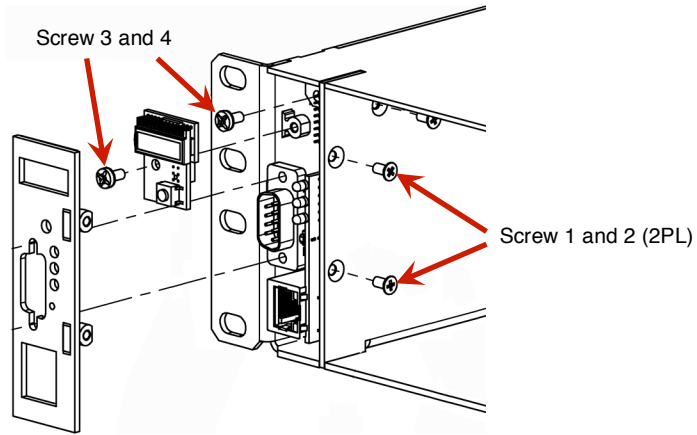

Figure 12—Showing CXCI (original design) replacement detail
8. Remove four (4) mounting screws from the CXCI (Figure 12). The first two screws will release the front panel from the controller circuit board to expose the third screw that releases the LCD circuit board. Carefully remove the LCD board to expose the fourth and final screw to release the remains of the CXCI.